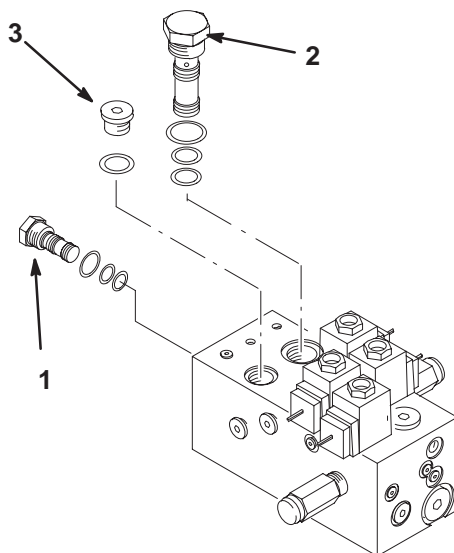

Figure 1
1. Remove the cartridge valve and seals from the right side of the manifold assembly (Fig. 1).
2. Remove the cavity plug w/seals and the plug w/o-ring from the top of the manifold assembly (Fig. 1).